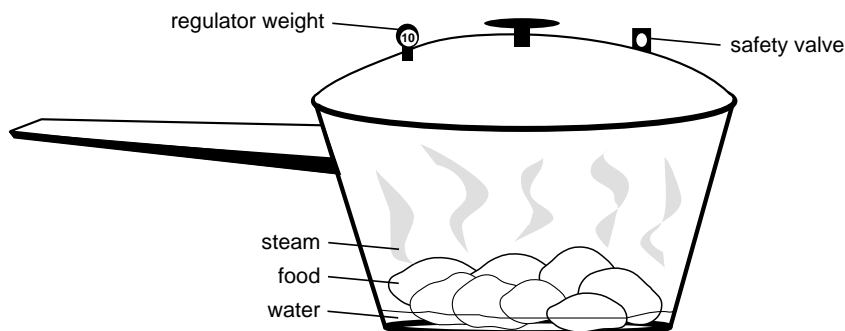

Figure 3.3. Cross section of a pressure cooker.
2. Have the class gather around the pressure cooker and examine it (Figure 3.3).